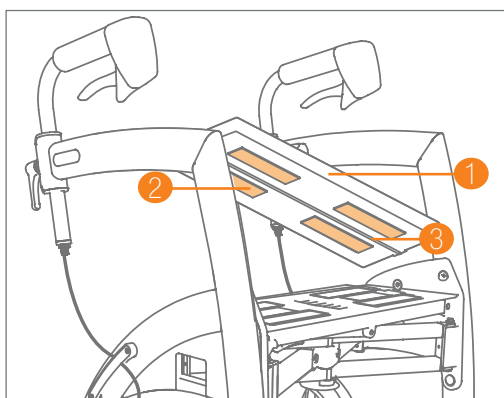

Figure 75: Removing the seat cushion from the rollator.
- a. Pull up the cushion to detach the Velcro straps securing it to the seat (**Figure 75**).